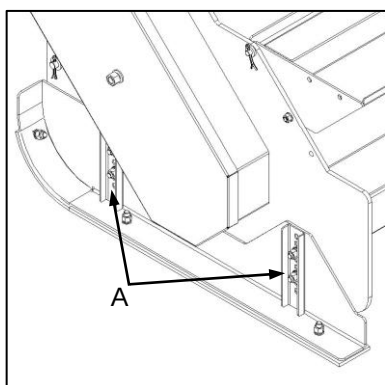

Fig. 6
- ✔ To set the working height of the implement, remove the side panel retaining bolts (Fig. 6-A) and adjust the position of the side panels as required. Ensure that the implement is level by selecting corresponding hole positions at all adjustment points.
- ✔ Om die werkshoogte van die implement te stel, verwyder die sypaneelklemboute (Fig. 6-A) en verstel die posisie van die sypanele soos nodig. Verseker dat die implement waterpas is deur ooreenstemmende gatposisies by alle verstellingspunte te selekteer.